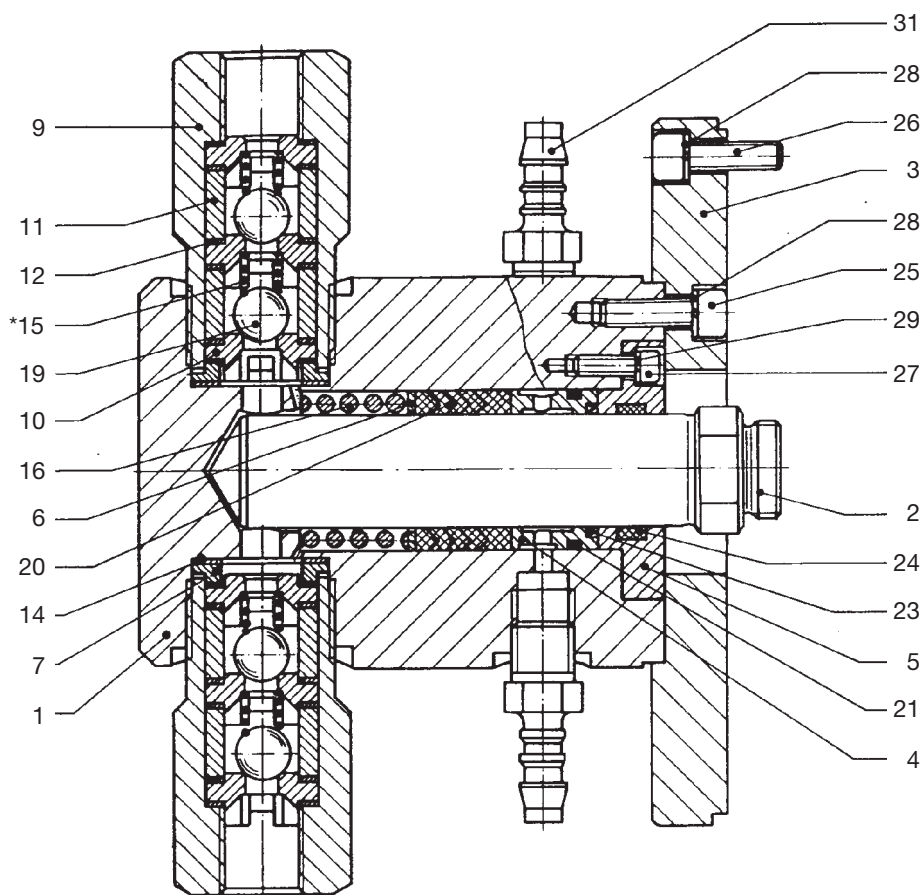

Fig. 9
- ▶ (if applicable: remove flushing hoses from hose nozzles (31))
- ▶ Slacken the locking nut on the push rod and detach the piston (2) from the push rod (See Fig. 9).